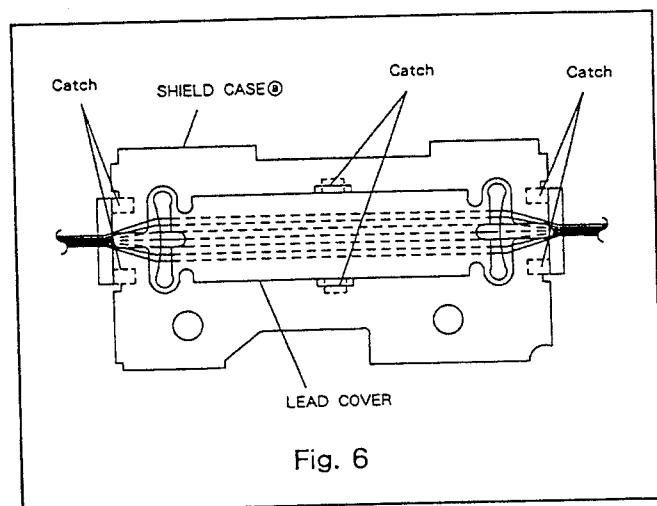

Fig. 6
- Pull off six catches on the lead cover to remove it fixed on the shield case (a), as shown in Fig. 6.